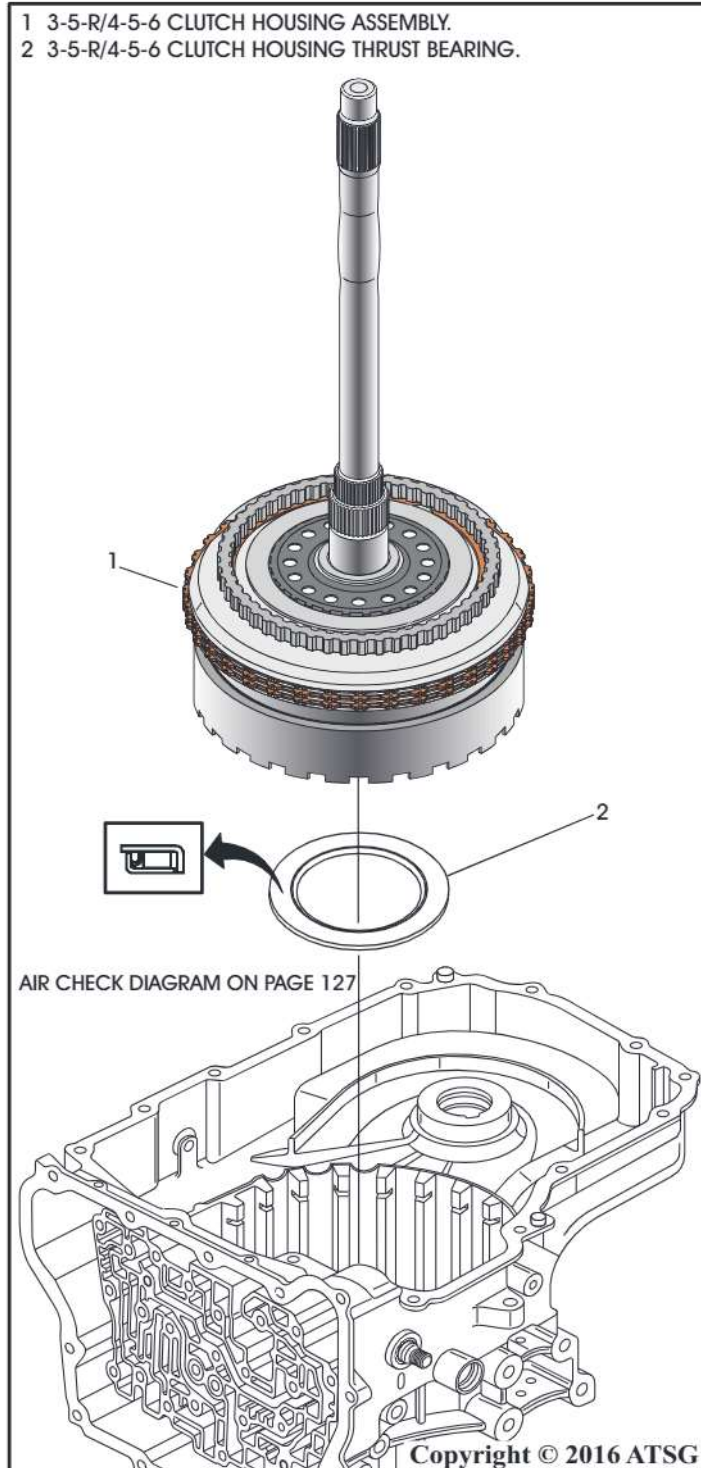

Figure 153
43. Attach the 3-5-R/4-5-6 clutch housing thrust bearing, See Figure 153, to the bottom of the 3-5-R/4-5-6 clutch drum housing with assembly gel.
45. Install the 3-5-R/4-5-6 clutch housing assembly into the transmission case as seen in Figure 153.